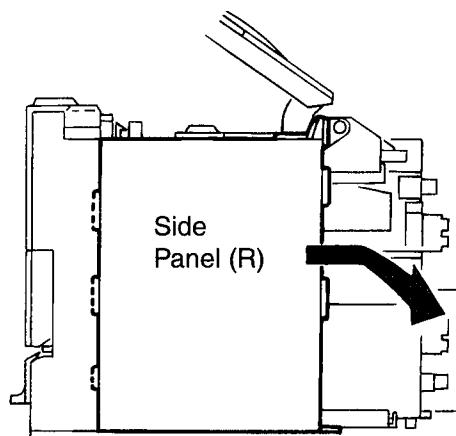

Fig. 6
4. While moving the side panel (R) in the arrow direction, remove this panel from the right side of the body (See Fig. 6).